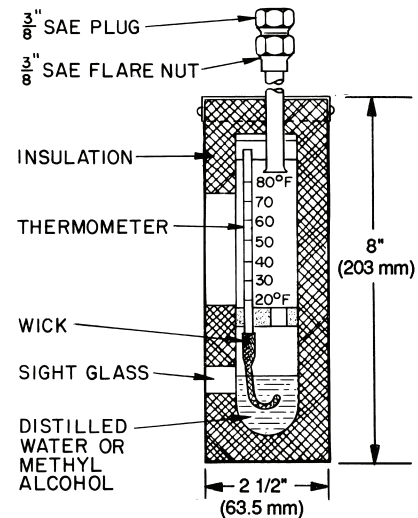

Fig. 28 — Typical Wet-Bulb Type Vacuum Indicator
- absolute pressure manometer or wet-bulb vacuum indicator (Fig. 28)